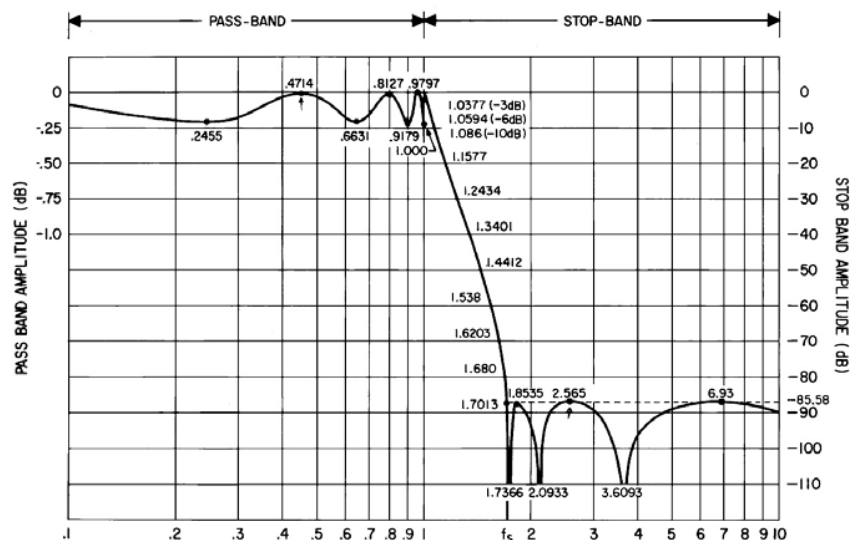

Figure 4.1 Normalized Ripple Response
4.4.1 LOW BANDS RIPPLE RESPONSE (FIGURE 4.1)